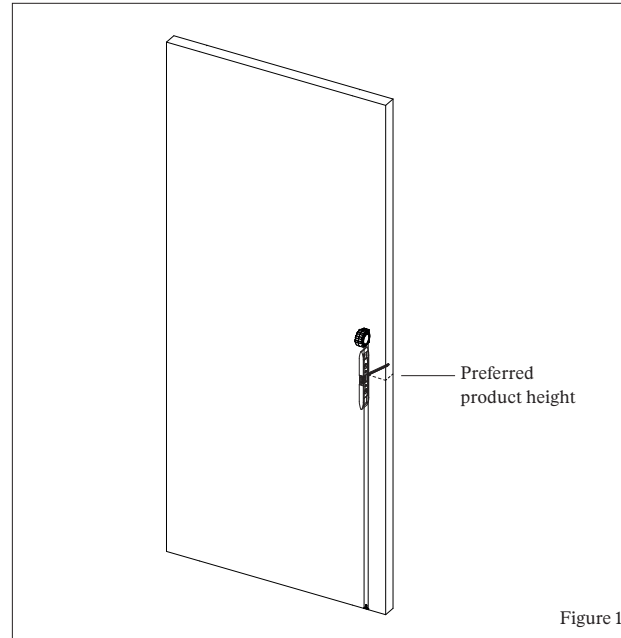

Figure 1
- 1.1 Mark the edge of your door at the desired height of your lever. See drill template below. (Figure 1)